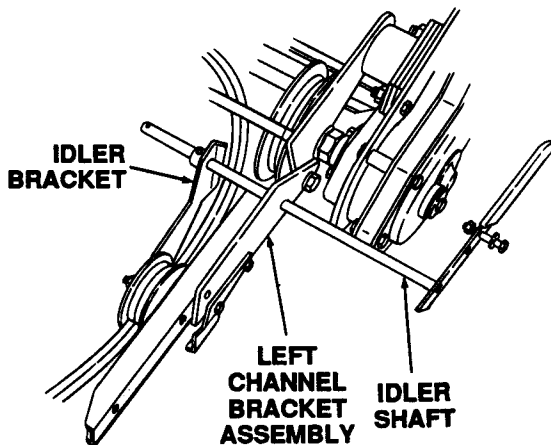

Figure 7-54. Installing Idler Shaft and Bracket.
- Refer to Figure 7-54 and insert the idler shaft (8, Fig. 7-45) through the rearward hole of the left channel bracket assembly. Push the shaft approximately half the distance toward the right channel bracket. With the idler pulley facing toward the left, slide the idler bracket assembly (9) onto the idler shaft as shown in Figure 7-54.